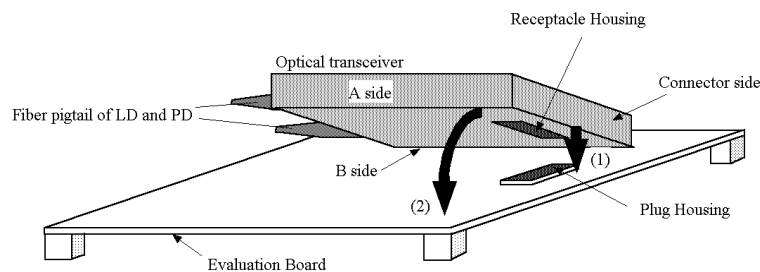
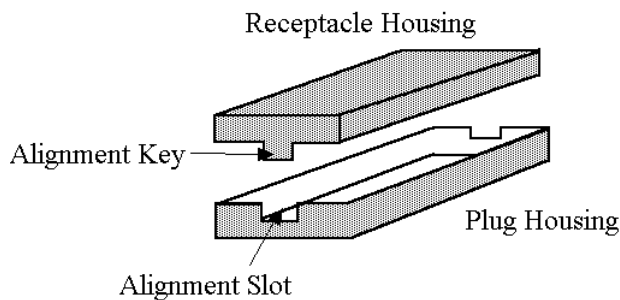

Figure 1 Mating Sequence
Figure 2 Details of connectors
1. Roughly align the connector, by matching one side of the plug slot (on the host board) with that of the receptacle key (on the transceiver) (See Figure 1, Figure 2)
2. Push the transceiver from one side above the connector (Figure 1 : side B), then push the other side (Figure 1 : side A).